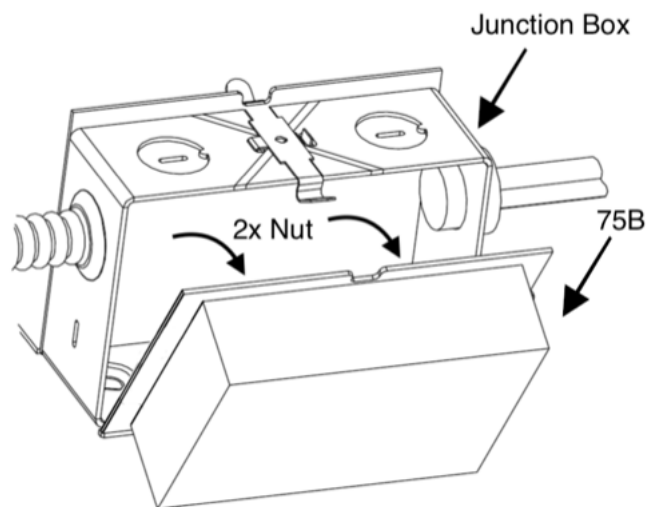

Figure 4 – Fastening the LED driver to the junction box
1. Remove knockouts on junction box to feed a driver to fixture as shown in Figure 4.
2. Attach the 75W /B driver to the junction box and tighten the nuts as shown in Figure 4.